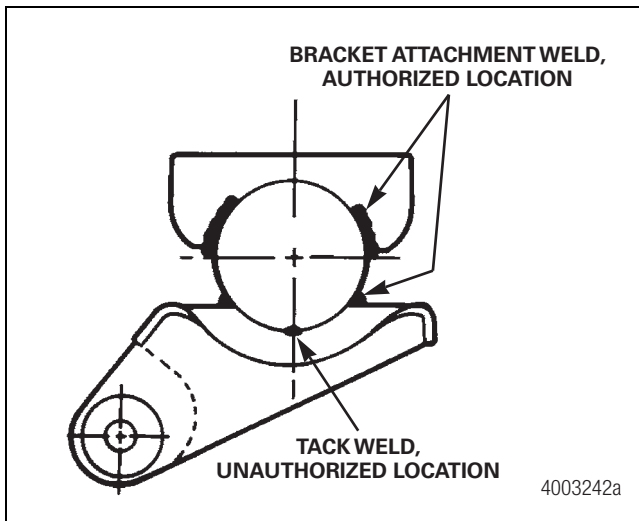

Figure 7.12
- Weld location requirements in this section apply to all welds. In some instances, axles have been found with bracket attachment welds in authorized locations, but with tack welds in unauthorized locations. Neither tack welds nor brackets attachment welds are allowed in unauthorized locations. This can cause a material change that can reduce axle fatigue life. Figure 7.12.